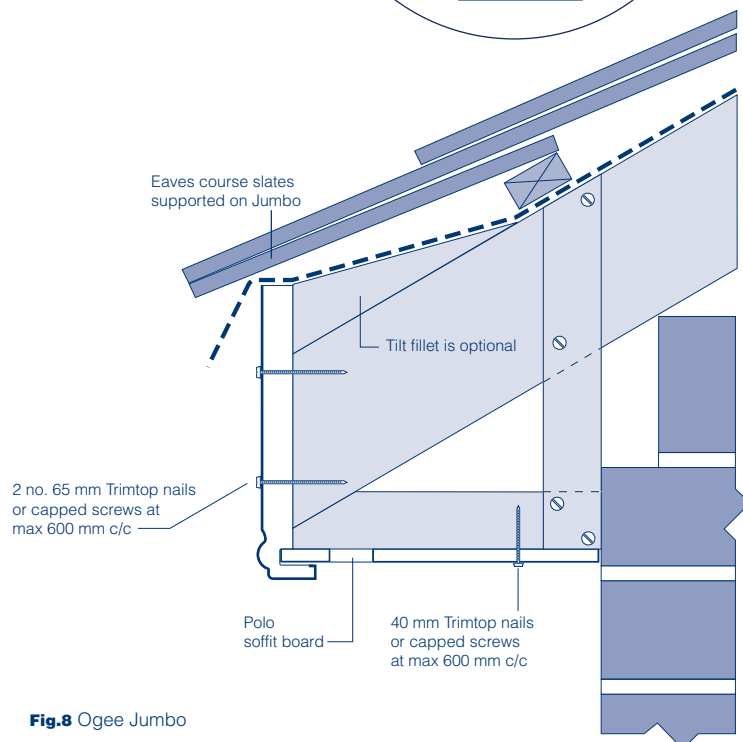

Fig. 8 Ogee Jumbo
- Where eaves protection is not to be fitted the roof felt must be in good condition and dressed over the fascia down into the gutter. (Fig 8)